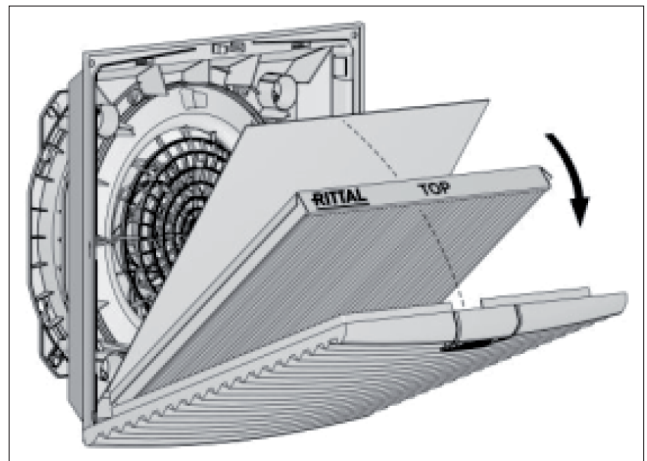

Fig. 9: Installing the IP55 pleated filter
- For IP55 only: place the IP55 absorbent fleece supplied with the pleated filters on the previously placed pleated filter (see fig. 9). The installation direction of the absorber is not critical.